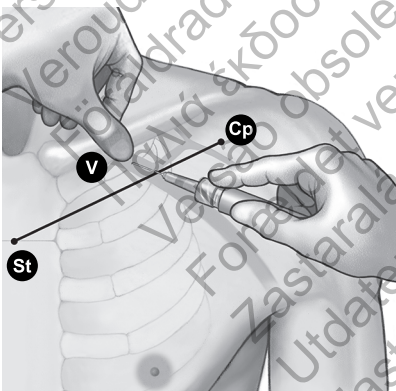

Figure 7. Location of thumb and needle entry
4. Press a thumb against the index finger and project 1–2 centimeters below the clavicle to shield the subclavius muscle from the needle (when hypertrophy of the pectoralis muscle is apparent, the thumb should project about 2 centimeters below the clavicle because the subclavius muscle should be hypertrophied as well) (Figure 7 Location of thumb and needle entry on page 17).